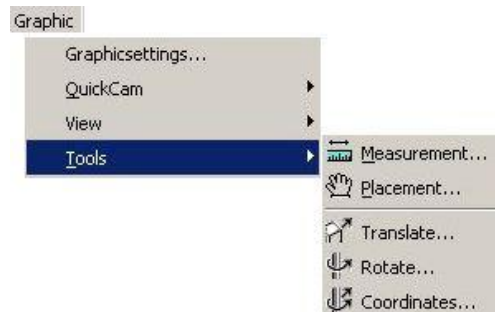

Figure 33: Tools Menu
You can call the measurement function either using the menu or the appropriate icon in the toolbar. Please refer to the Figure 33.
To place a body onto a surface, open the dialog either using the icon in the toolbar or using the **Tools** menu of the right mouse button **context menu**. Please refer to the Figure 33.
- 1) Select a graphic object. You can open the **Translate** dialog either using the **Graphic** menu (*Please refer to the Figure 33*), the right mouse button context menu or the Icon in the toolbar. *Please refer to the Figure 44*.